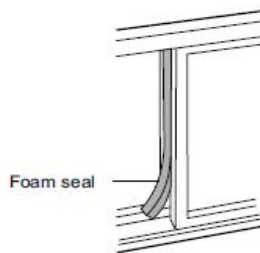

Fig. 17
5. Cut the foam seal to the length and seal the open gap between the top window sash and outer window sash. Show in Fig.17.